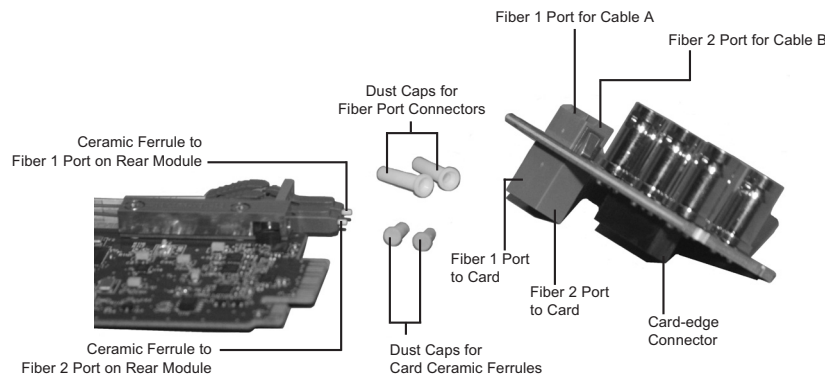
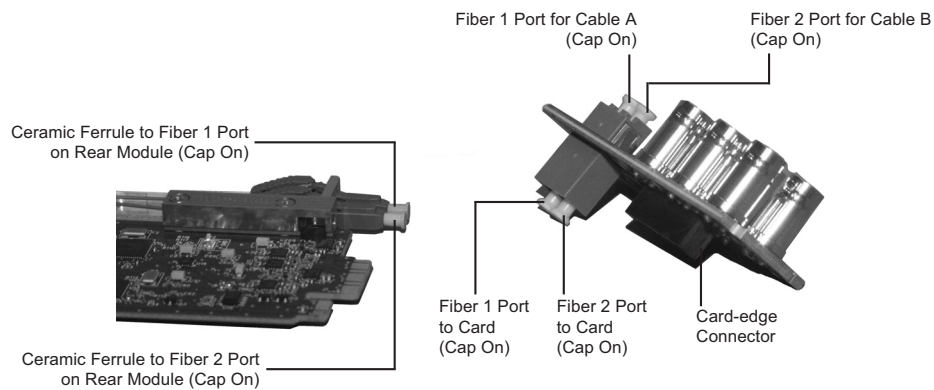

Figure 4.1 Card Connectors with Dust Caps Removed
Figure 5.1 Card Connectors with Dust Caps Installed
3. Remove the dust caps from the Fiber ports on the rear module that face the interior of the frame. Refer to **Figure 4.1** for dust cap locations.
- Refer to **Figure 5.1** and **Figure 4.1** for dust cap locations.
- Connectors must always be inserted into a device or have a dust cap on. Refer to **Figure 5.1** for dust cap locations.